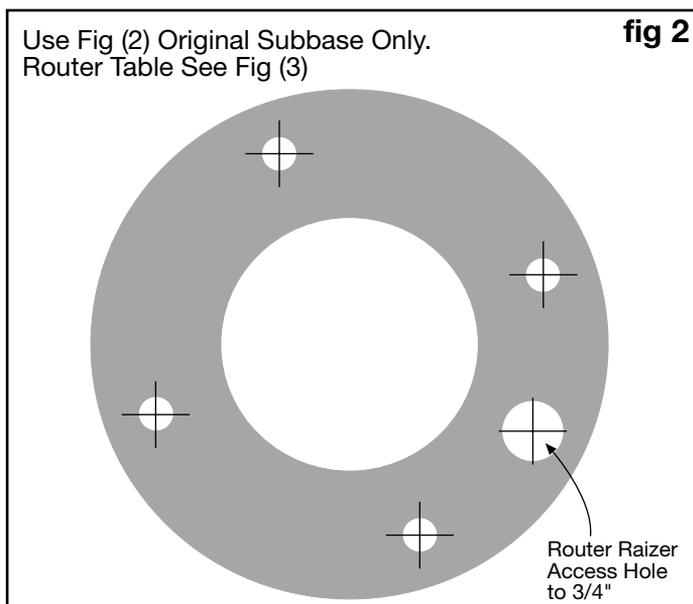

fig 2
2. The *spring cover cap* must be removed. Using (fig 2) loosen the *cover cap screw* until it does not touch the cap. **Do not remove the screw.** While applying downward pressure rotate cap to the left and lift slowly to remove.
1. **Drilling Original Subbase.** Using (fig 2) align template mounting holes with the subbase holes. Mark the Router Raizer access point onto the subbase. Before drilling, place subbase on router base, check the Raizer access point is over the mainshaft head. When marked properly drill a 3/4" access hole through the subbase and install onto router.
- 1.** Using (fig 2) Adjust #21 lead screw, leaving approximately 1/2" exposed threads. Plunge router by hand 1/8" past desired height, and secure plunge lock.